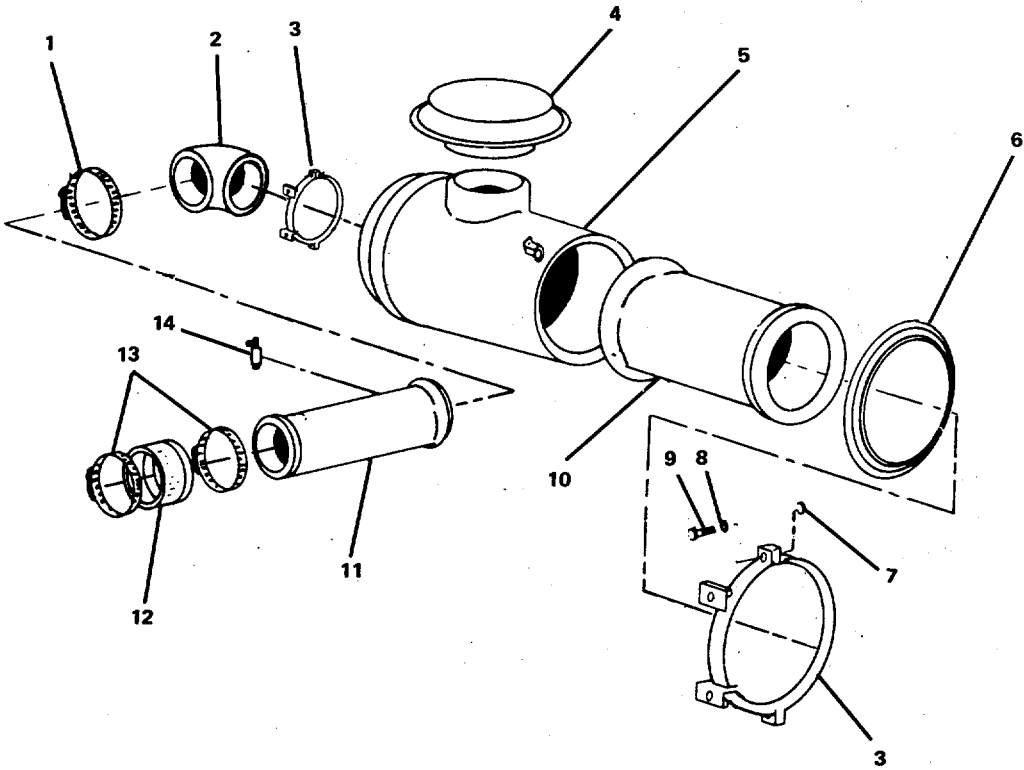

FIGURE 2-15. Air Cleaner Group.
- (1) Install thermostat (8) and seal (7). Use thermostat gasket (6).
- (2) Hold the thermostat housing in position and install the four capscrews (25).
- (3) Tighten the capscrews (25) to 35 ft-lb torque.
- (4) Install hose (21) with clamps (20) to thermostat housing (19).
- (5) Tighten hose clamps (20) to 40 in-lb torque.
- (6) Refill the cooling system. Refer to PMCS Table 2-1, Item 21.
- (7) Run the engine. Refer to TM 55-1905-223-10. Check for correct operating temperature. Check for coolant leaks.
**2-25. Replace/Repair Air Cleaner Group. (FIGURE 2-15)**